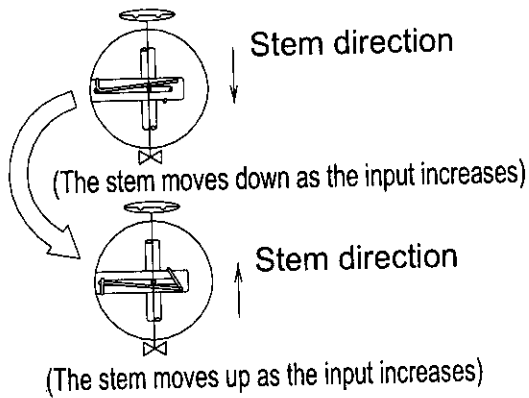

Fig.9 Use position of feedback lever
- (1) Attach to the position that the valve stem and lever form the right angle when the input signal is 50% (distribute evenly with 50% input signal set as the reference).
- (2) Attach to the position that the runout angle is within the range of  $10^{\circ}$  to  $30^{\circ}$ .
- (3) To move the valve stem downward at the time of input current increase (normal actuation), attach to the position at which the tightening spring comes to the upper side of the connection, as shown in Fig.9. To move the valve stem upward (reverse actuation), turn-over the feedback lever and attach to the position at which the tightening spring comes to the lower side of connection.